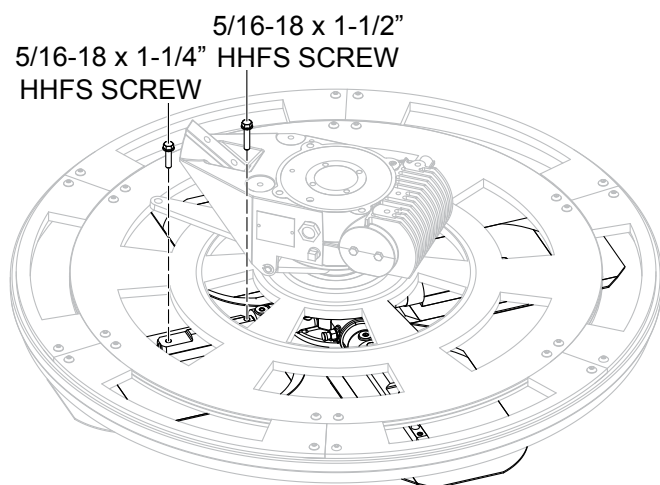

**Figure 33. Fuel Valve Lever (OFF)**
4. Close the fuel shut-off valve (Figure 33) by moving the fuel valve lever to the "OFF" position.